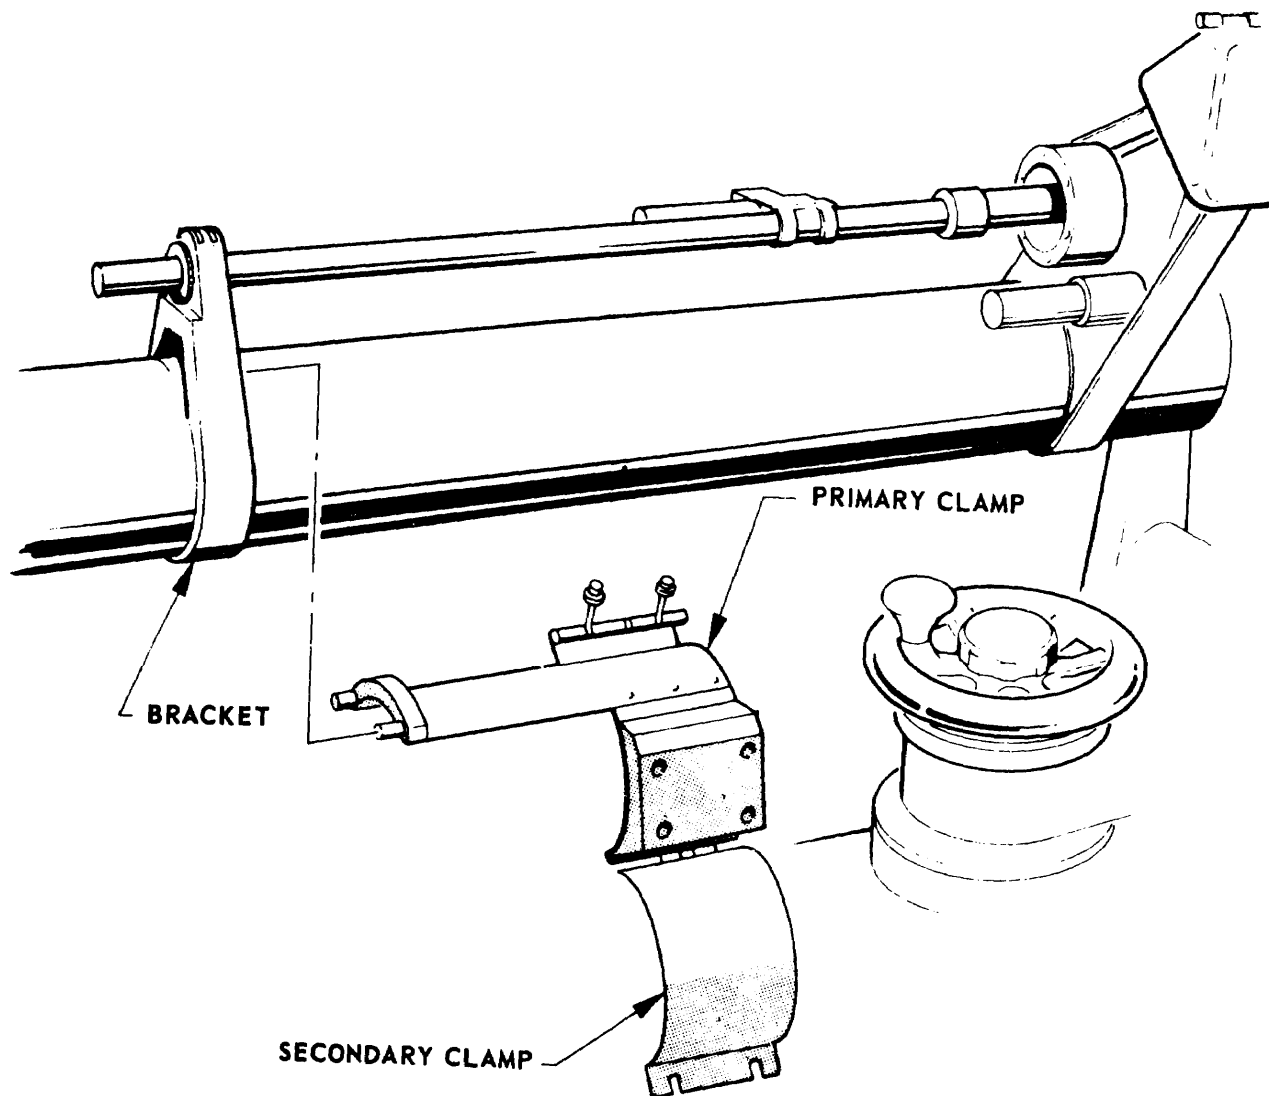

Figure 9. Weapons adapter bracket installation on the 106-mm recoilless rifle.
19. Installation of Weapons Adapter Bracket and Sight on 106-MM Recoil less Rifle M40A1 (Figs 9 through 11). The weapons adapter bracket and the Sight are mounted on the 106-mm recoilless rifle as follows: